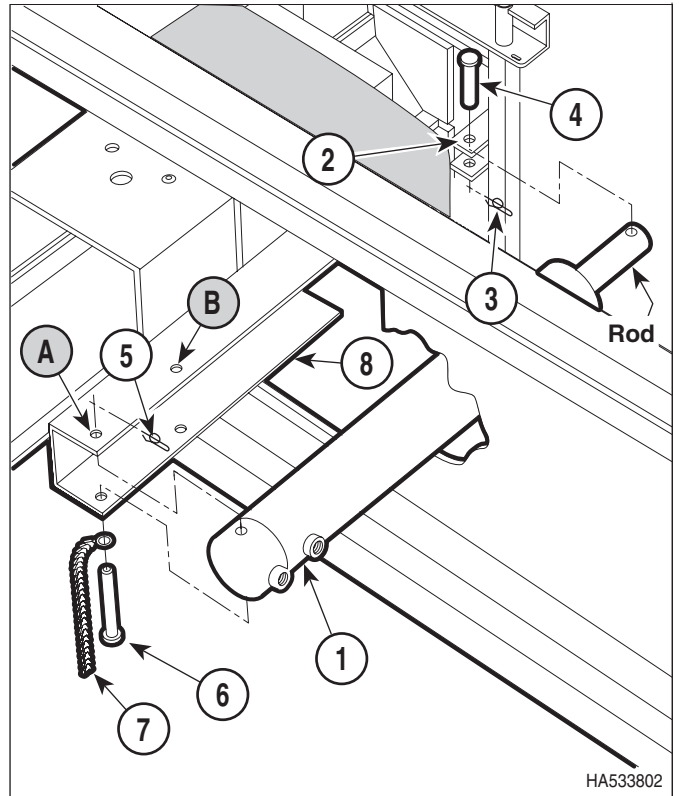

Figure 4-15. Elevation Cylinder Removal / Installation
- (8) Loosen jam nut (6) and then remove fitting (4), nylon ball (7) and restrictor seat (8) from elevation cylinder (1).
- (9) Disconnect rod of elevation cylinder (1, Figure 4-15) from litter top (2) by removing rue ring (3) and clevis pin (4).
- (10) Remove rue ring (5), clevis pin (6), ground chain assembly (7), and elevation cylinder (1) from chassis (8).
- (1) Install ground chain assembly (7, Figure 4-15) on clevis pin (6).